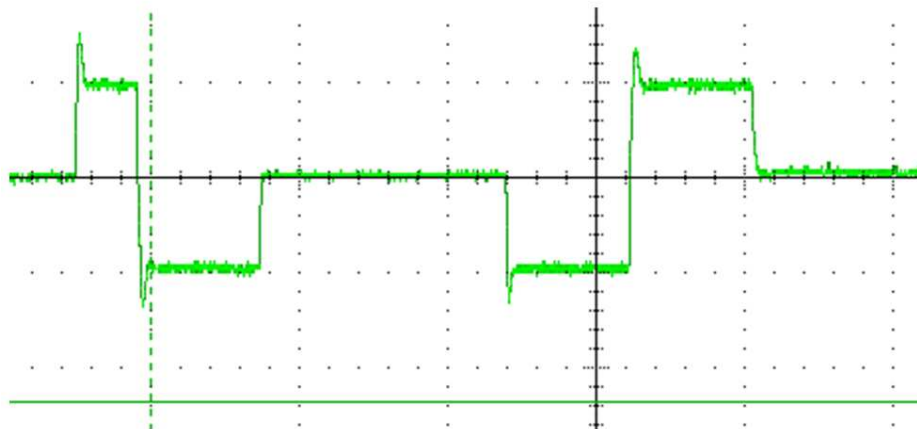

Figure 11. Current Clipping During IPD Process (not Desired)
- Step 6. Turn ON the motor commutation (either analog or digital). Refer to the tuning guide and data sheet for more details on different methods to turn ON motor commutation. Make sure that motor is locked so that it is not moving or spinning. Monitor phase current on one of the phases and if the current waveform on any of the phases is clipped during IPD process, as shown in Figure 11, decrease 'IPD Current Threshold'.